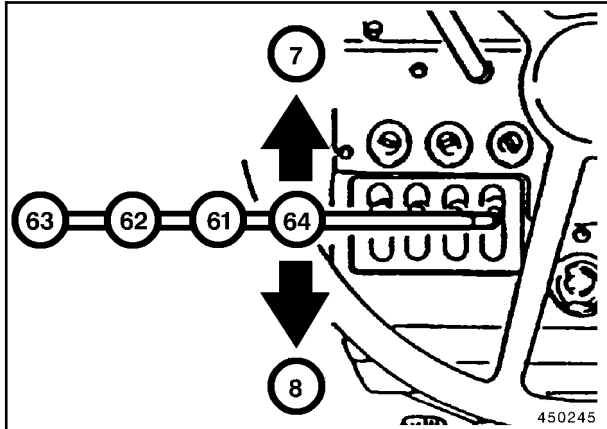

Fig. 4
The rear ripper is operated with control lever (64, Fig. 4).
- To lower rear ripper - control lever (64, Fig. 4) in position 7.
- To raise rear ripper - control lever (64) in position 8.